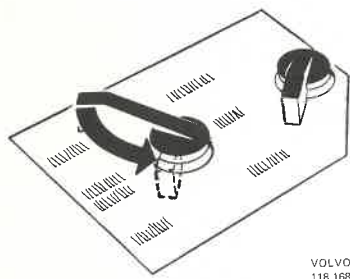

Fig. 92-15. Distribution gear in neutral
5. Put the distribution gear in neutral. Note that the arrow on the instrument panel, see Fig. 92-15, is in position N.